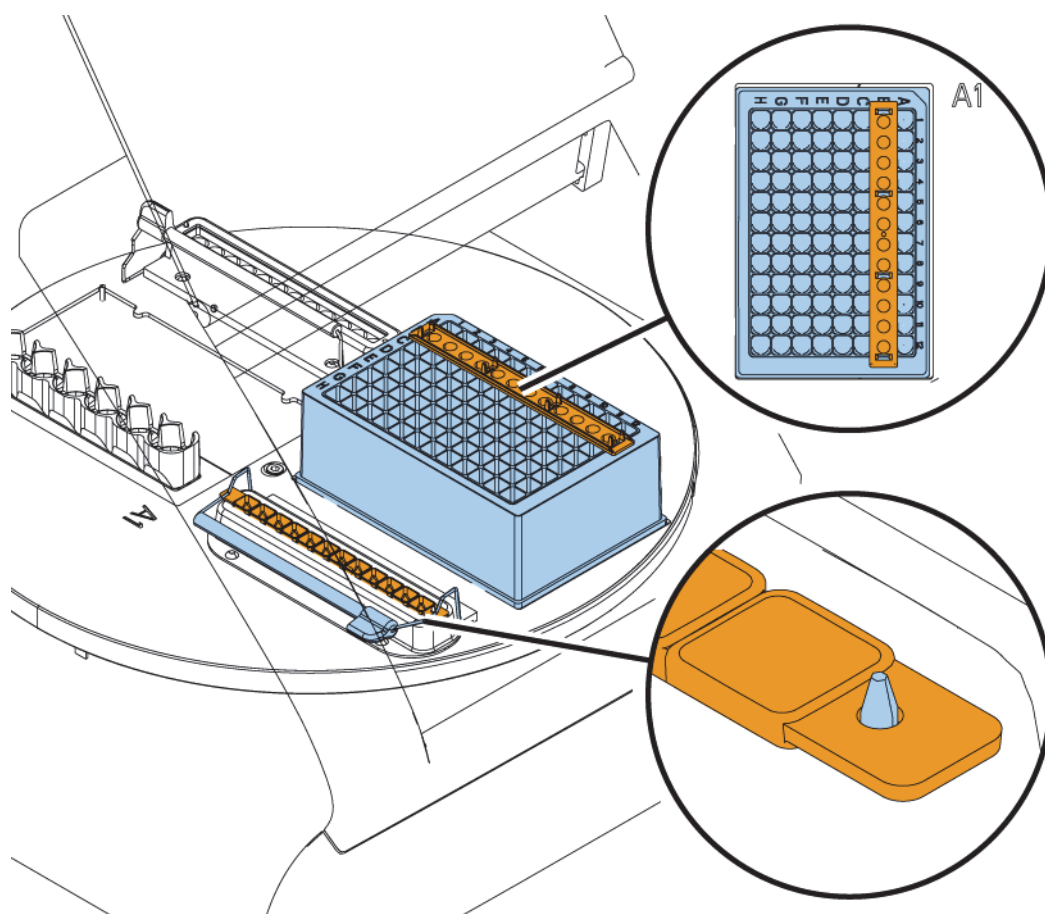

Figure 11. Loading the plate and the elution strip
- Place the plate into the device so that the A1 corner is in the inner circle in the upper right corner (see Figure 11 on page 17).
- Use the elution strip holder to hold the elution strip in place (illustrated in Figure 11 on page 17). There is a tap that helps placing the elution strip correctly (see the following figure).